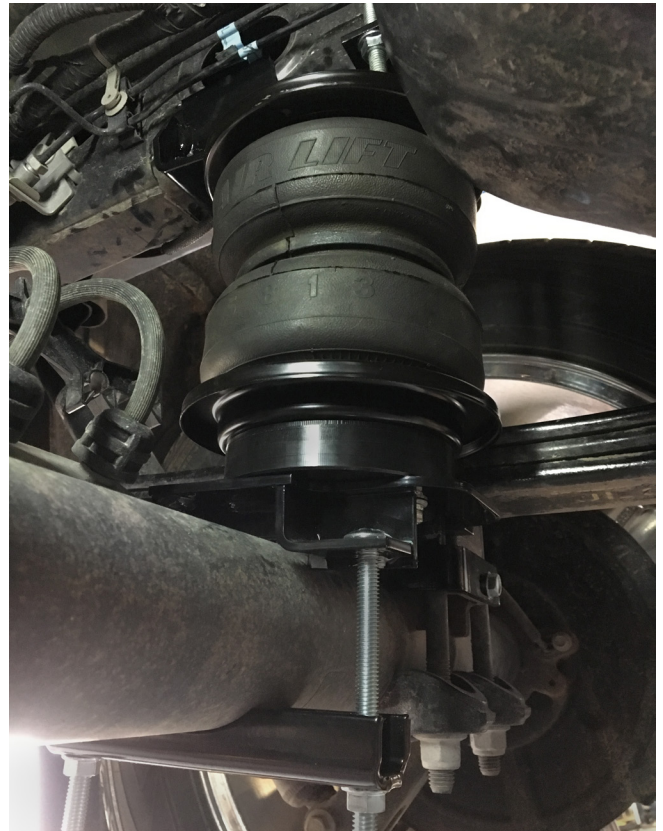

Fig. 28
17. Align the air spring by sliding the assembly forward or backward. Ensure clearance to objects around the air spring and torque the mounting hardware on the top and bottom to no more than 20 lb.-ft. (27Nm) (Fig. 28).